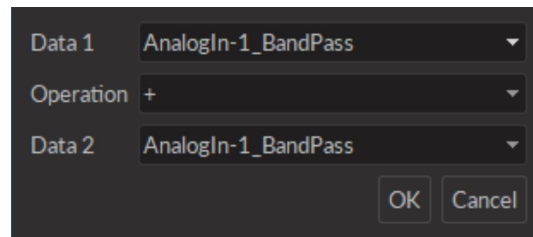

Figure 4.37: *Arithmetic Window*
- The **Arithmetics** button opens the arithmetic window (Fig. 4.37). From this window simple arithmetic operations (+, -, ×, ÷) can be performed on any two data sets currently in the module. This includes data sets that have already been processed.